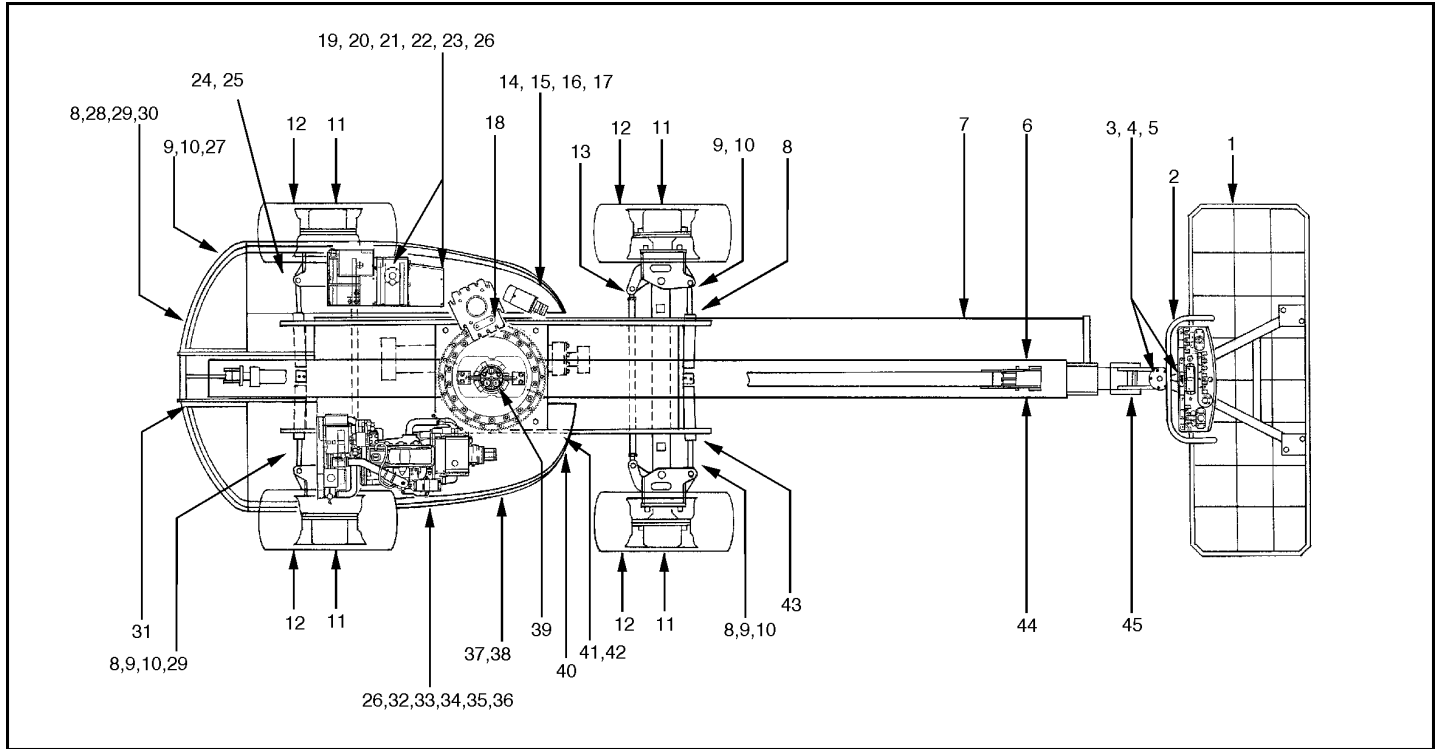

Figure 2-3. Daily Walk-Around Inspection Diagram
5. **“Walk-Around” Inspection** – Refer to Figure 2-3. thru Figure 2-6.